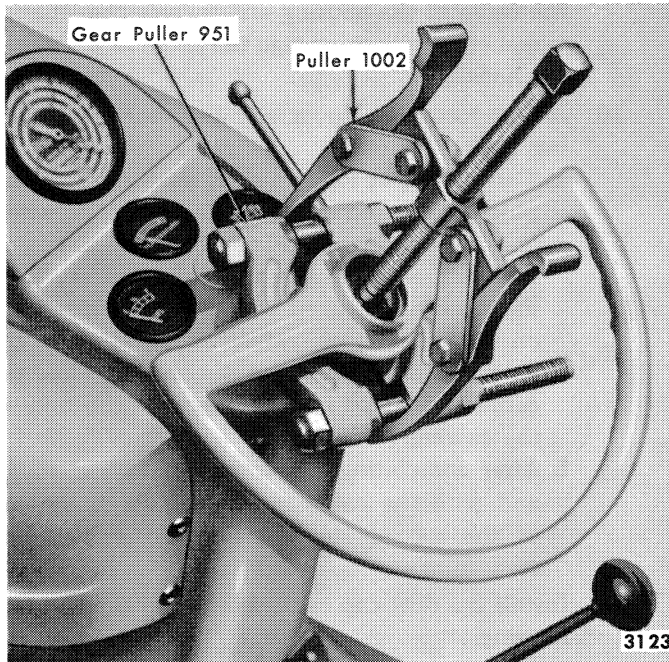

Figure 20—Removing Steering Wheel
6. Pry the steering hub cover from the steering wheel and remove the steering wheel nut, emblem, and steering wheel. If a puller is necessary, use the type shown in Figure 20, to prevent distortion of the steering wheel spokes (Puller 1002, Gear Puller 951).